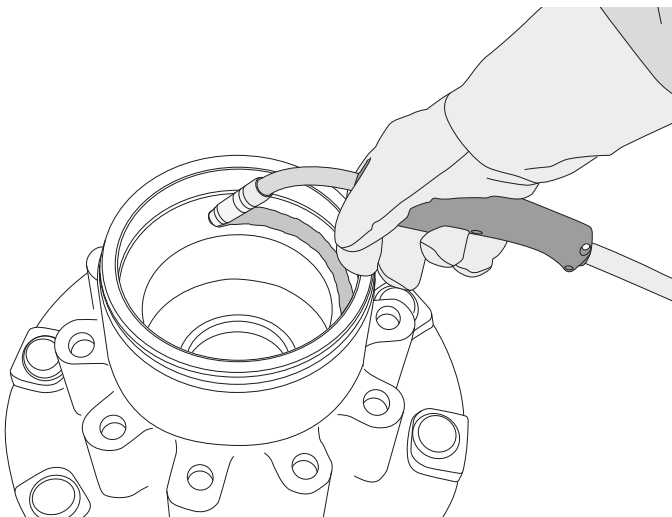

Figure 95: Weld a Bead Around the Bearing Cup
3. Using a suitable welder, weld a large bead around the centre of the bearing cup. Refer Figure 95.